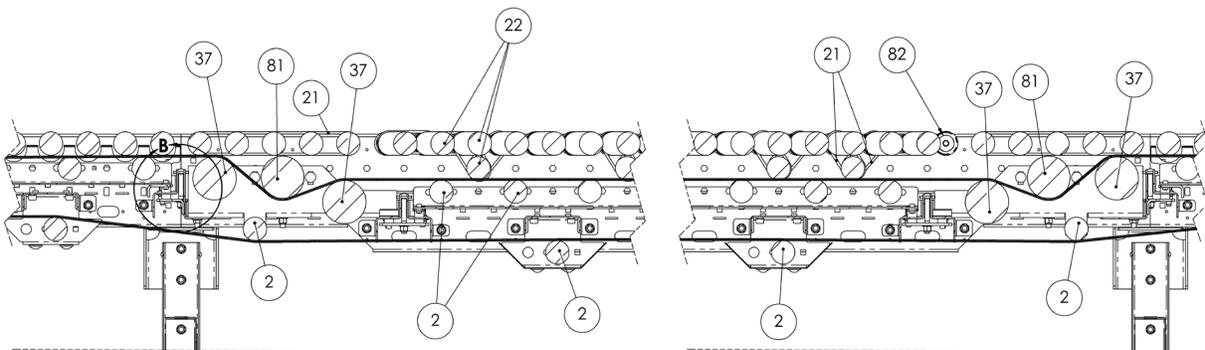

Figure 16: Skewed Bed Belt Routing
3. Remove either the upstream or downstream conveying roller (1) immediately next to the bed break. Drop in an upper pressure plate (76) and a 3”L carriage bolt (77). The upper pressure plate sits in notches in the two bed spacers.
4. Push a spring pressure plate assembly (80) up through the holes in the bed spacers. The rubber springs will press over the two protruding pins on the two modules. Ensure that the carriage bolt passes through the hole in the pressure plate assembly.
5. Install a washer (78) and nylock nut (79). Hand tighten only at this stage. Overtightening will make the belt difficult to install.
6. If the conveyor contains one or more skewed beds, the transitions to those skewed beds get a special one-sided lower pressure plate (83). The remainder of the pressure assembly is installed the same as on non-skewed beds. See Figure 9: Skew Transition Pressure Assembly Detail. For additional context, this detail is “Detail B” in Figure 16: Skewed Bed Belt Routing, in section 5.5.3.
1. Remove the banded rollers (22) at the start and end of the skew section to gain access to the routing pulleys.
3. Route the belt underneath the crowned routing pulley (81) and over the two straight routing pulleys (37). See Figure 16: Skewed Bed Belt Routing for details.
4. Route the belt between the pressure module rollers (2) and the lower, non-skewed driving rollers (22). If the skew section is very long, it may be helpful to remove a few conveying rollers in the center of the section for access.